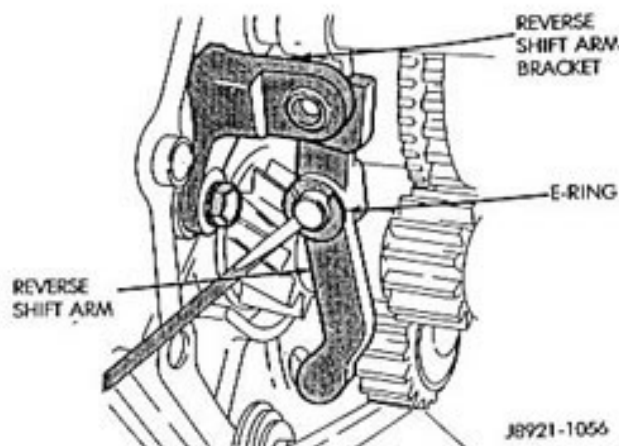

Fig. 26 Removing Reverse Shift Arm E-Ring
(5) Remove the E-ring that secures the reverse shift arm to the fork (Fig. 26).